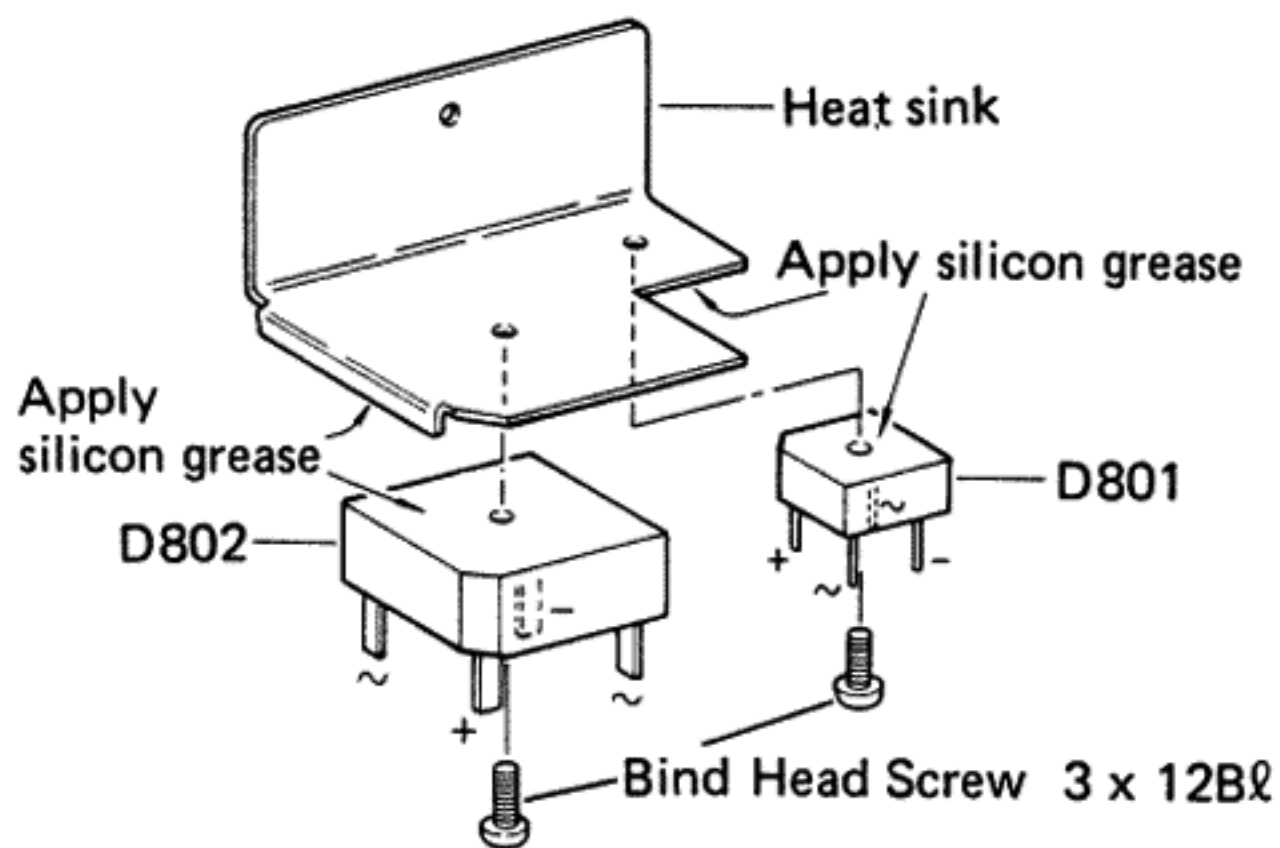

Fig. 11
- d. Remove screws which fix diodes and exchange diodes. When mounting diodes, apply silicon grease to the contact surface of diodes and heat sink. (Fig. 11)